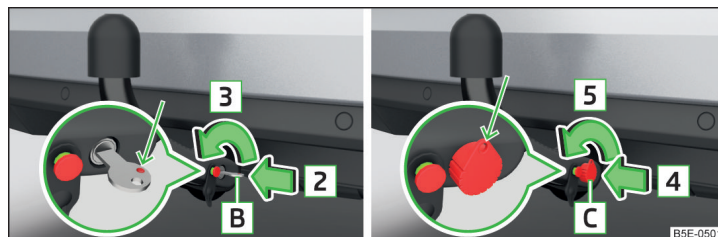

Fig. 187 Unlock lock: Key version 1 / key version 2
- Turn key [B] in the direction of arrow [3] so that the red marking is pointing upwards » Fig. 187.
- Turn key [C] in the direction of arrow [5] so that the eye of the key is pointing upwards » Fig. 187.